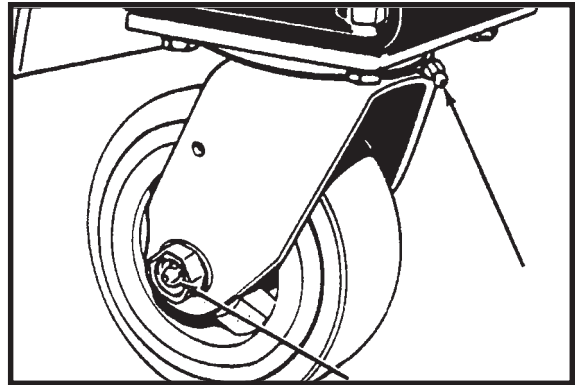

Figure 6
3. Use a grease gun to lubricate the caster. See figure 6.